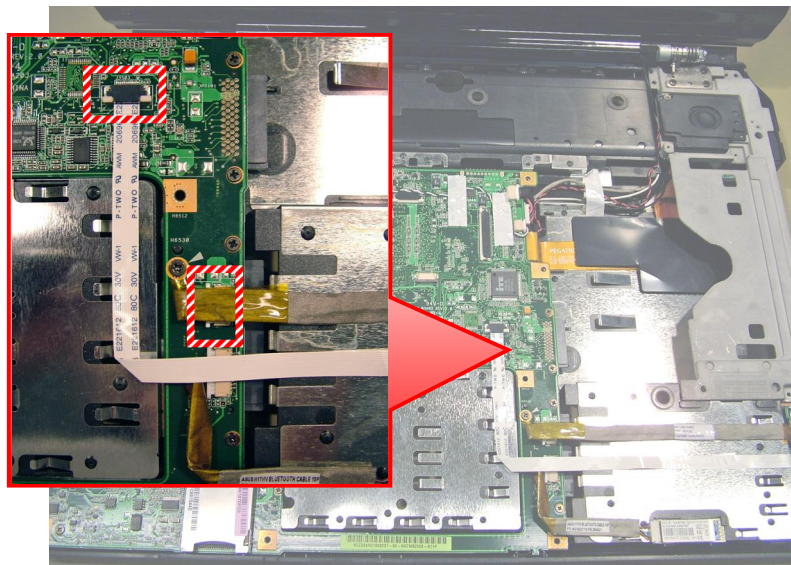

Fig. 29 Disconnecting USB board and audio board cables.
Note: On Fig. 29, one of the headers is partly covered by the flat cable.
1. Release the white clip securing the USB board cable and disconnect the audio board cable from the headers on the main board (see Fig. 29 on page 17).